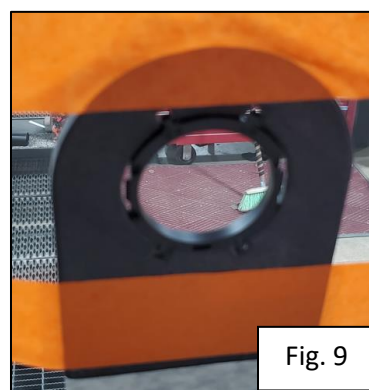

Fig. 9
- E. Add masking tape to hold the mounting tool and ring into place. (Figure 9)